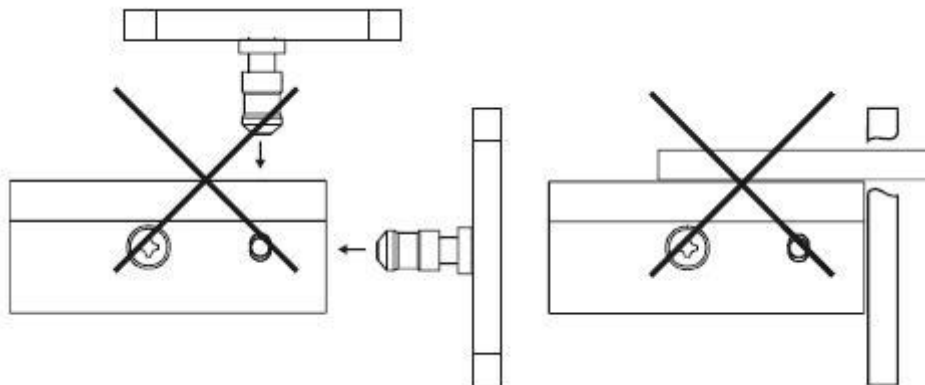

Figure 5 Mounting instruction – wrong positioning
**Caution:** Under no circumstances must the rosette be mounted as shown in Figure 5, i.e., turned through 90°. If the locking bolt of the rosette engaged the locking element that way, it will no longer be possible to open the door or drawer.